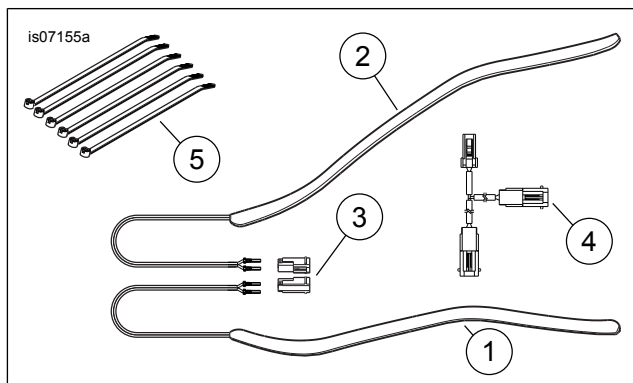

Figure 5. Service Parts, Fairing Edge Light Kit
See Figure 5 and Table 1.
- See Figure 5. Get the jumper harness (4), cable straps (5) and socket terminal housings (3) from the kit.